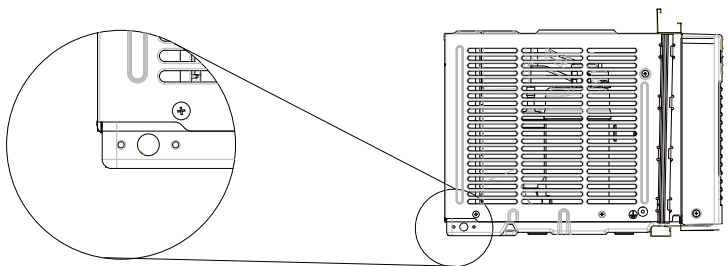

FIG. 15B
2. Remove the drainage gasket from the body base plate- FIG. 15B.